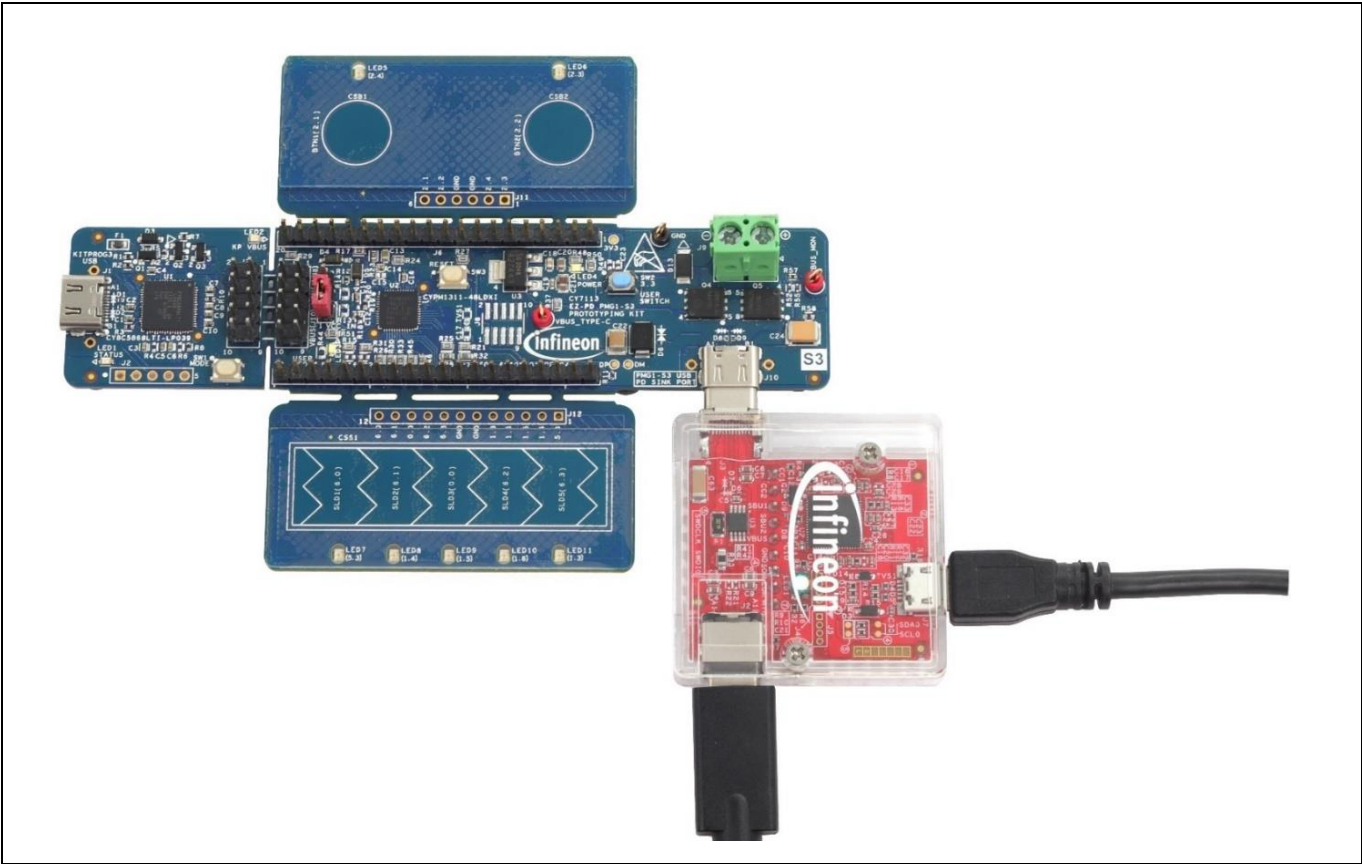

Figure 13 Complete setup of CY4500-EPR EZ-PD™ Protocol Analyzer
- Connect a USB Type-C power adapter (not provided with the analyzer) to the USB Type-C receptacle (Connector J2) of the CY4500-EPR EZ-PD™ Protocol Analyzer board. Verify that the setup looks similar to the image shown in Figure 13. The USB Type-C power adapter mentioned here is just an example. Any USB Type-C device can be used in its place.
12. If the hardware shown in Figure 13 is not stable or gets disconnected at any point, the status bar at the bottom of the utility window shows the message **EZ-PD™ Analyzer is disconnected**.